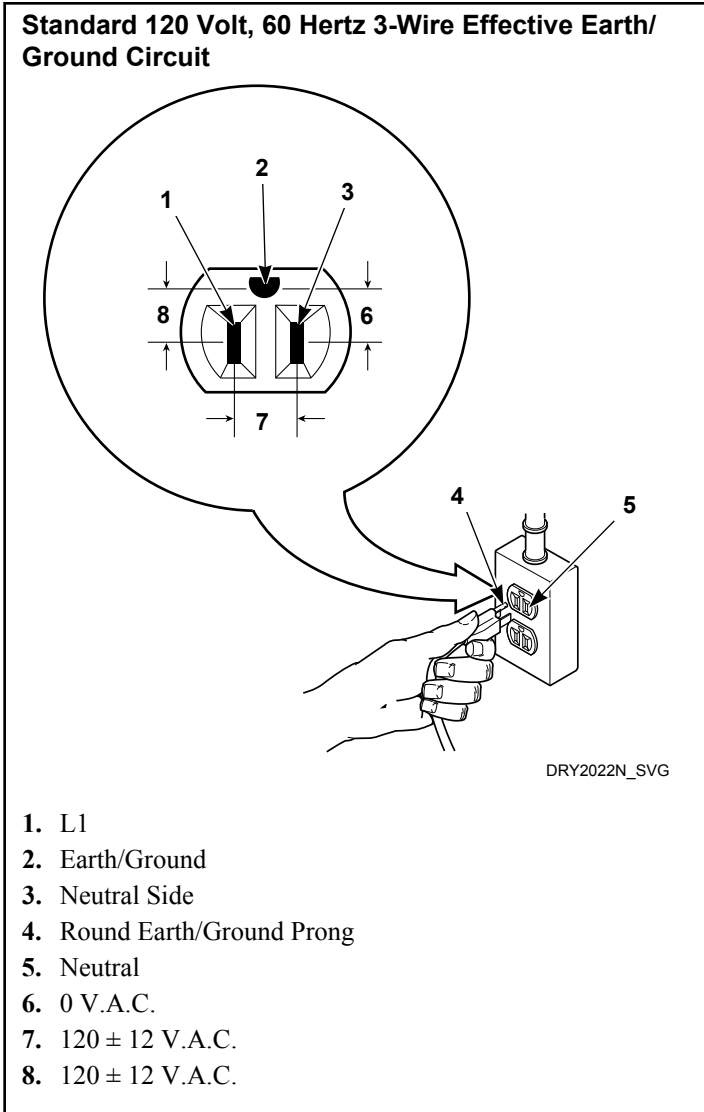

Figure 17
- The three-prong earth/ground plug on the power cord should be plugged directly into a polarized three-slot effective earth/ground receptacle rated 120 Volts AC (alternating current) 20 Amps. Refer to *Figure 17* to determine correct polarity of the wall receptacle.